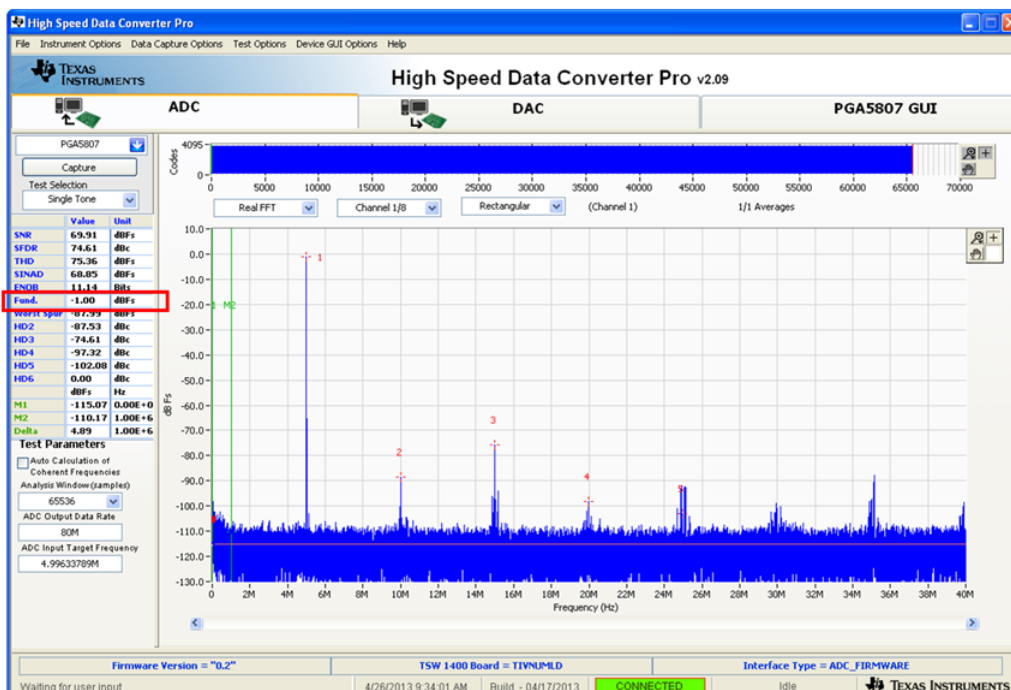

Figure 42. ADS5296A Only Sinusoidal Capture 1
- The plot will update as shown in Figure 42. Take note of the *Fund.* value in the left panel highlighted in RED in Figure 42. This value is dependent on the signal level set on the signal generator feeding the input signal to J36. It also depends on cable loss and filter insertion loss which can vary among parts. If needed, reset the signal amplitude (level) until the *Fund.* value is approximately -1.0 dBFs, as this is the condition for which the datasheet specifications are set. The input level was iteratively adjusted to achieve -1.0 dBFs as seen in Figure 42.